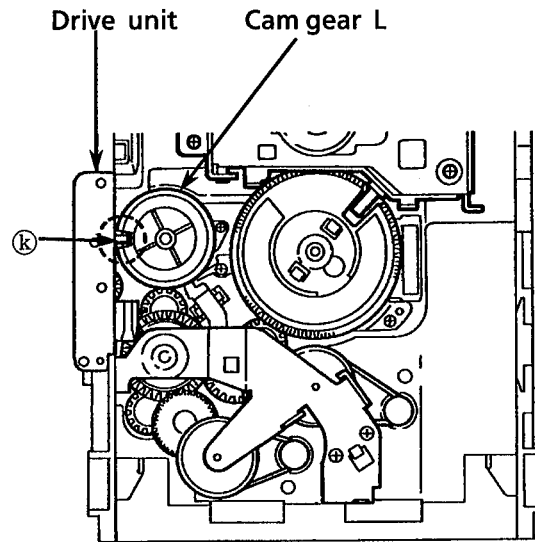

Fig. 20
2. Rotate the Cam gear L so that the drive unit's pawl ① is positioned as shown in Fig. 20.